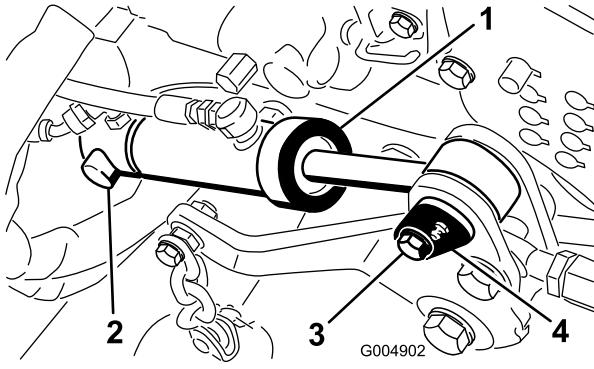

Figure 13
9. Install the rear of the deck lift cylinder onto the pivot pin and secure with the retaining ring (Figure 13).
10. Secure the front of the lift cylinder to the mower frame with the cylinder pin and screw (Figure 13).